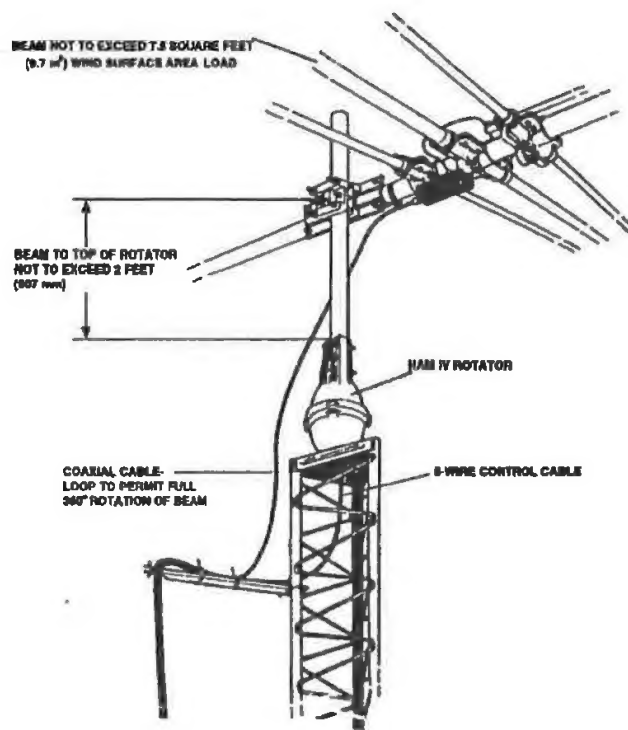
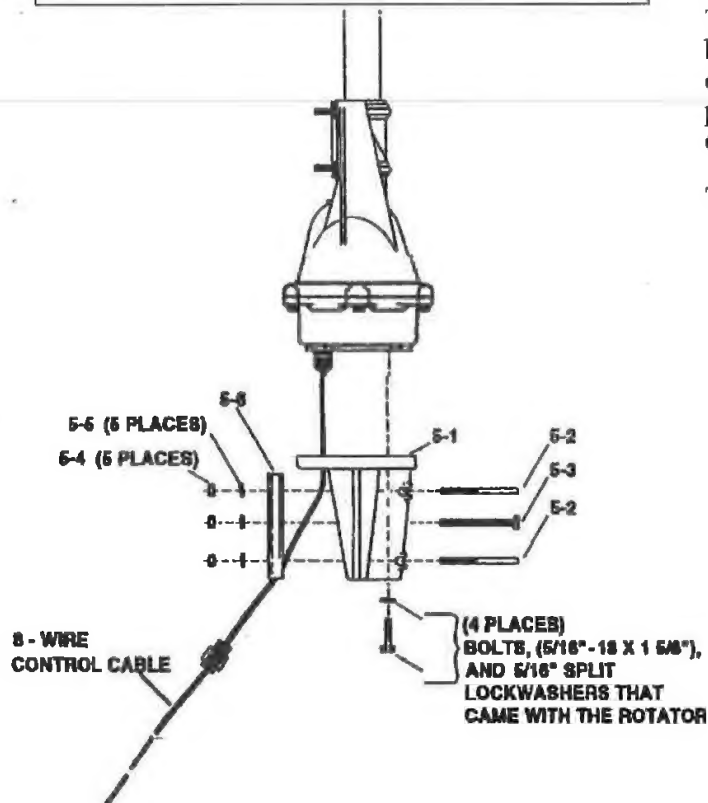

Figure 5
Figure 7
B. Outside Tower or mast Mounted as per Fig. 5 or 6	7.5 sq. ft. (0.7 sq. m) of wind surface area
*Maximum Effective Moment (EM)	2,800 ft. lb. (387 Kg. M)
**When no mounted within a tower with a thrust bearing, as shown in Figures 5 and 6, the rotator must be DEBATED.**
2. An "outside" Tower Mount (see Figure 5) is optional. The rotator is not well protected but the installation is simpler. With an "Outside" Tower Mount, the rotator must be derated to 7.5 square feet.
Referring to Figures 5, 6, and 7, an outside tower or pole mount is made in the same manner except that the rotator is fastened by four (4) bolts only (not six) to the Lower Mast Support, PN 51467 10. Since the eccentricity of the rotator turning in reference to the tower is no longer important, the shimming procedure is not necessary. The four (4) bolts must be torqued to the same specification and the 8-wire cable securely fastened. The lower mast should be pinned with the 5/16"-18 x 4" bolt as shown in Figure 7.
The stock HAM W is intended to mount on the base plate inside of the tower. However, in some instances, outside tower or mast mounting is desired as per Figures 5 and 6. This kit, P/N 5146710 contains a heavy-duty lower mast support and the necessary hardware to facilitate mounting the HAM IV on top of a tower stub or mast.